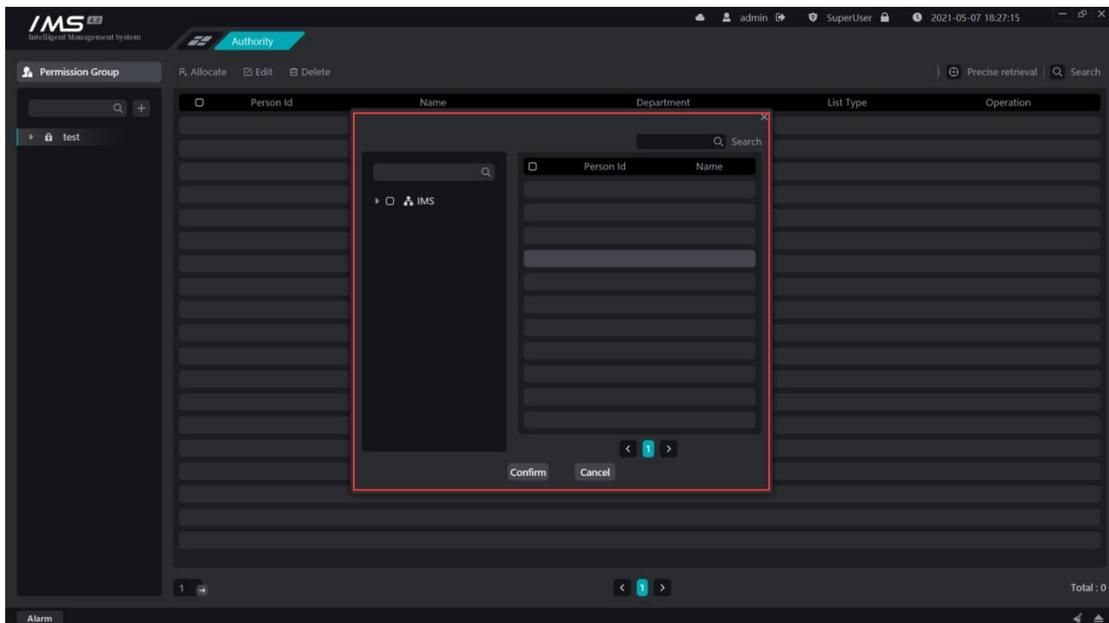

Figure 4-4
- 3 Select people, as shown in figure 4-4.